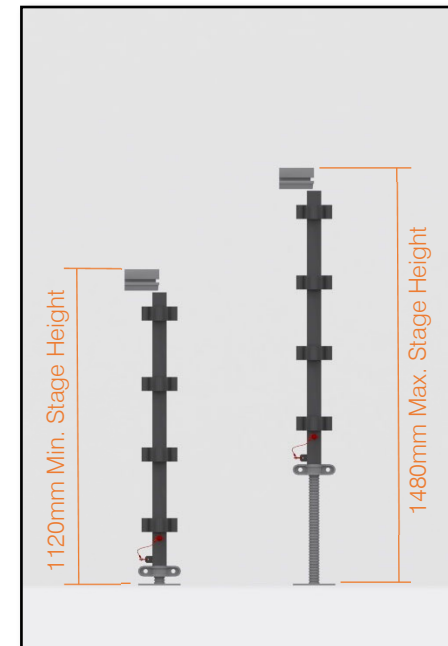

Fig. 5 - Static Stage Heights
- 1.6.2 Static. 1120mm to 1480mm. *Fig. 5 - Static Stage Heights*